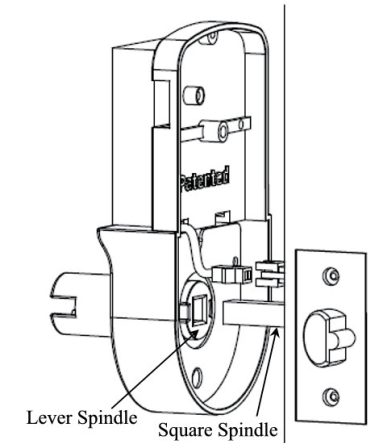

fig. 3
1.3 Take care to keep inside chassis vertically aligned during installation. Connect wire and arrange wire in empty space, take care to ensure wire is not pinched or crushed at any point during installation. The Square Spindle slide smoothly into square hole on Lever Spindle (see fig. 3).